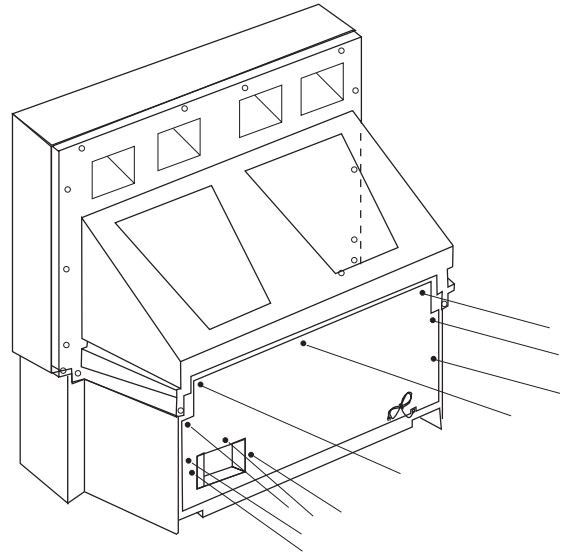

Figure 9. **Lower Cabinet Back Removal**
(Figure 9)
1. Remove (7) hex screws around its perimeter marked with arrows. (See Figure 9 for screw location).
2. Remove (3) screws from around the A/V terminal board (marked with arrows).
2. Remove the cabinet back lower. (Figure 9)